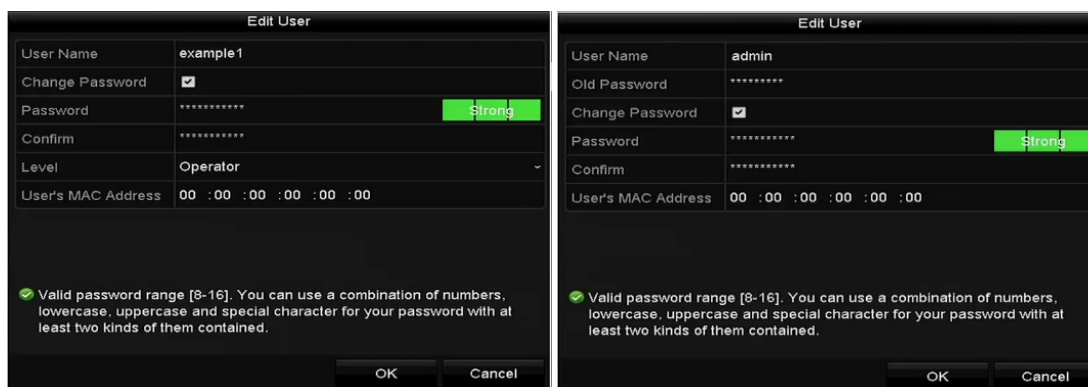

Figure 16. 10 Edit User Interface
3. Click the icon to enter the Edit User interface, as shown in Figure 16. 10.